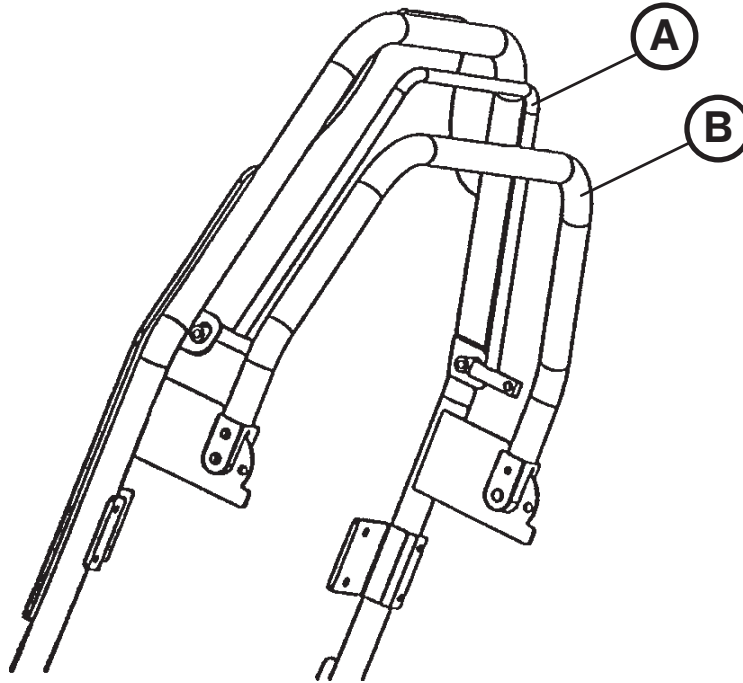

Figure 4: Fowler (Model 5050)
To raise the fowler, squeeze the red handle (A) toward the fowler frame, not toward the push bar (B), for pneumatic assist until the fowler has reached the desired angle (between 0 and 90 degrees) as shown in Figure 4.
To lower the fowler, squeeze the red handle (A) toward the fowler frame, not toward the push bar (B), and push down until the fowler has reached the desired angle (between 90 and 0 degrees) as shown in Figure 4.